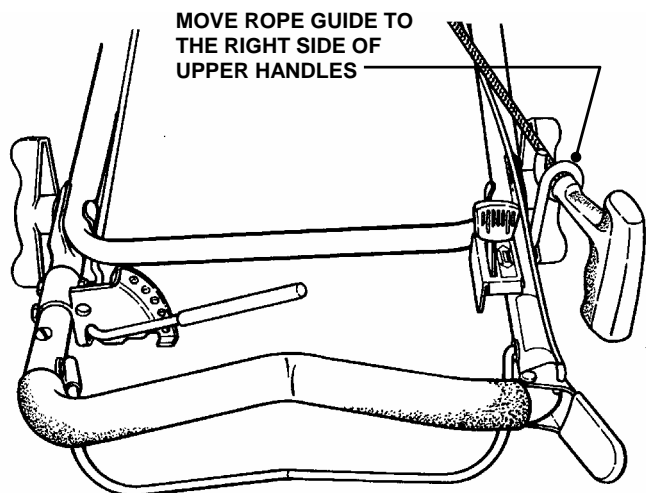

FIGURE 5
STEP 4: Pull blade control against handle, hold in this position, unwrap rope from rope guide. Rope and handle will retract back into engine. Release blade control. Remove rope guide from side of handle. Reinstall guide to the right side of handles using mounting hardware that secures engine speed control. Pull blade control against handle, hold in this position, and pull rope start with handle up past rope guide. Hold in this position and release blade control and use both hands to loop the rope back through the rope guide. See Figure 5.